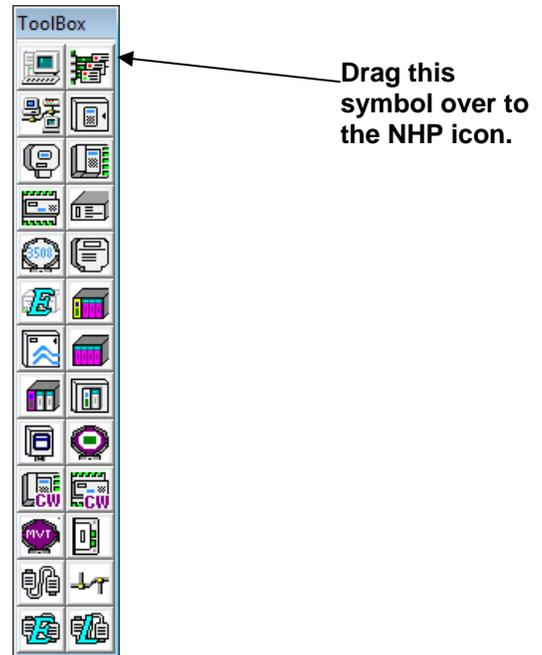

Figure 6-26. Starting the Network Wizard – Method 2
- The other way to activate the Network Wizard is to first click **View>Toolbox** from the menu bar. This activates the Toolbox. From the Toolbox (see Figure 6-26) drag the BSAP network symbol over to the NHP icon. This activates the Network Wizard.